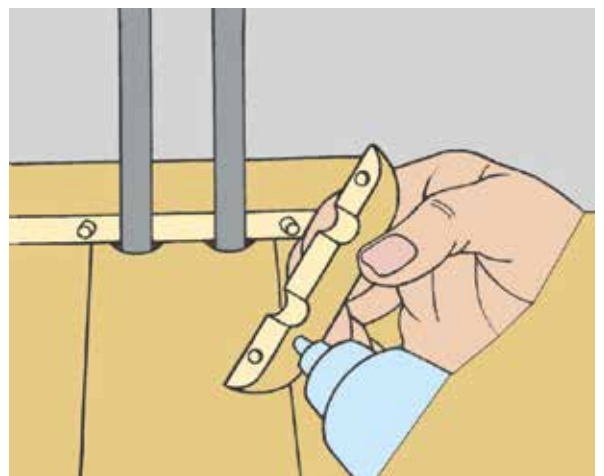

Fig. 8.2
2. Pipe roses are used to conceal movement joints around radiator pipes, etc. Measure where the hole should be and drill a hole for the pipe only slightly bigger than the pipe. Use wood adhesive to glue the rosette halves together around the pipe (Fig. 8.2).